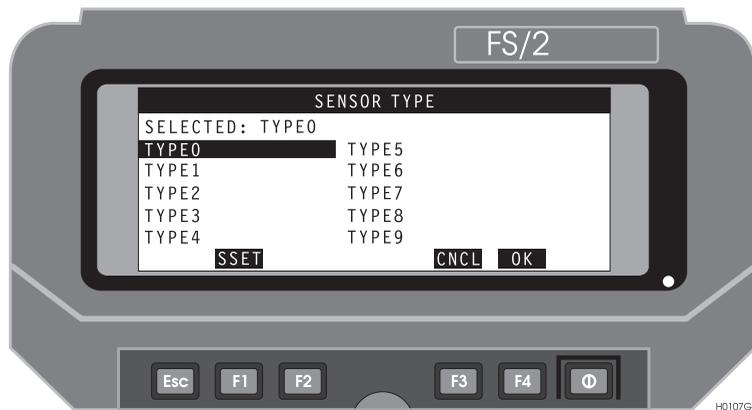

Figure 3.23: Sensor Type Screen With Default Sensor Device Types
2. If the sensor type is not listed, press **F2 (TYPE)** to call the Sensor Type screen, Figure 3.23, which lists all currently defined sensor devices.